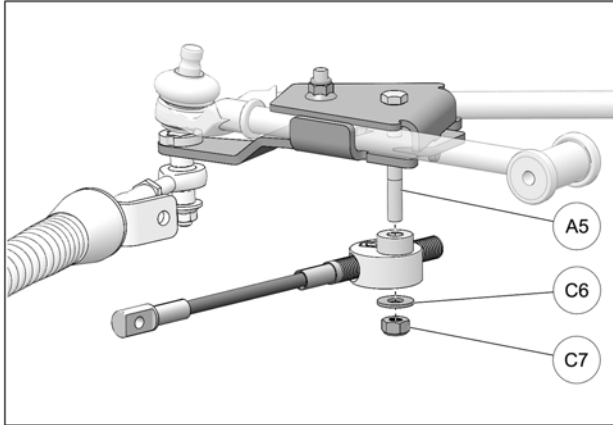

Fig. 23
12. Position steering limiter cable assembly under anchor bracket and slide it over bolt (A5) already inserted. Use washer (C6) and nut (C7) to secure assembly to anchor bracket. Tighten nut to 50 N•m [37 lb•ft]. Refer to Fig. 23